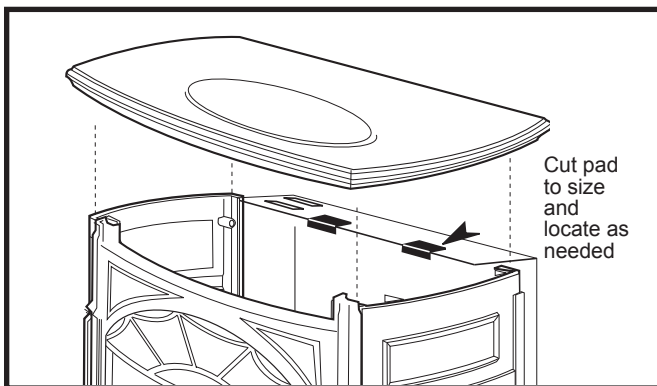

Fig. 5 Vibration dampening pad location. (PDV20 shown)
- Cut the self-adhesive tape to size as needed, remove the backing paper and place tape on the top edge of the Shroud at those locations where it will eliminate direct contact between the Shroud and the Top Plate. (Fig. 5)